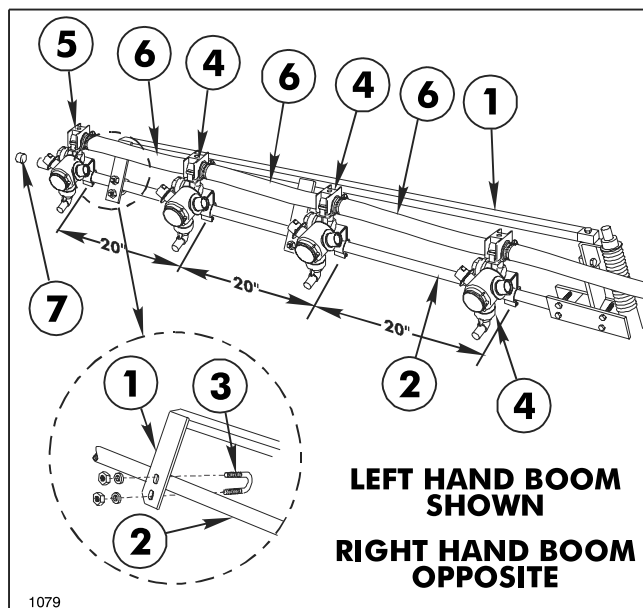

FIG. 14
6. Secure the two plates of the boom support assembly to the extension boom pipe, using (2) 1/4" U-bolts, (4) locknuts, and (4) flat washers (FIG. 14).
9. Attach three double barb and one single barb turret assemblies on each extension boom pipe as shown in FIG. 14. Turret assemblies are to be level & spaced on 20" centers. Connect the turret assemblies with the 3/4" x 19" jumper hoses. Secure with hose clamps. **NOTE: Two jumper hoses provided with this kit are 21" long. They should be cut to 19" long for this set-up.**